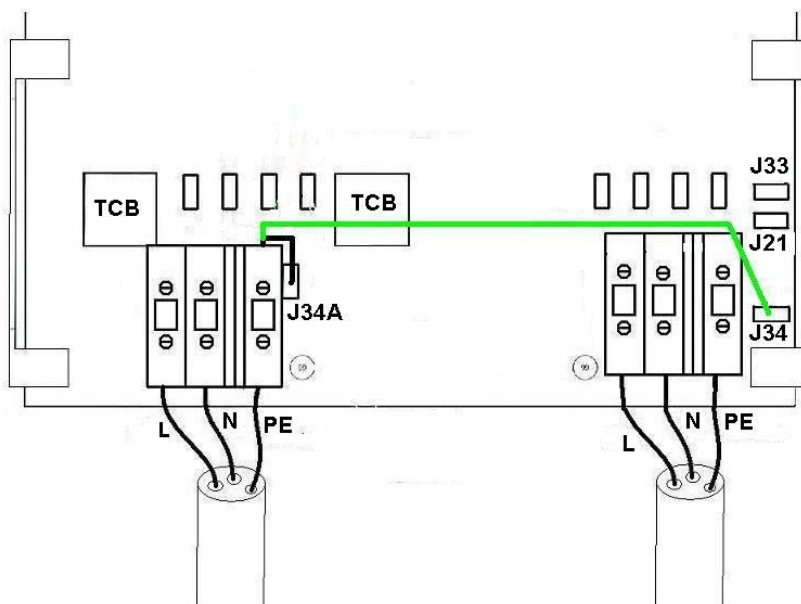

Figure 4: Input earth connection
### 2.3. Input earth connection (fig 4)
- If the boat is floating, connect the PE wire coming from the input PE terminal to male push-on connector J34A (wire shown in black on fig 4). Now input and output are isolated from each other.
- If the boat is on shore (winter period or maintenance), the PE conductor in the boat must be connected directly to the input PE, for safety reasons. This is achieved by connecting the PE wire coming from the input PE terminal to male push-on connector J34 (wire shown in grey on fig 4).